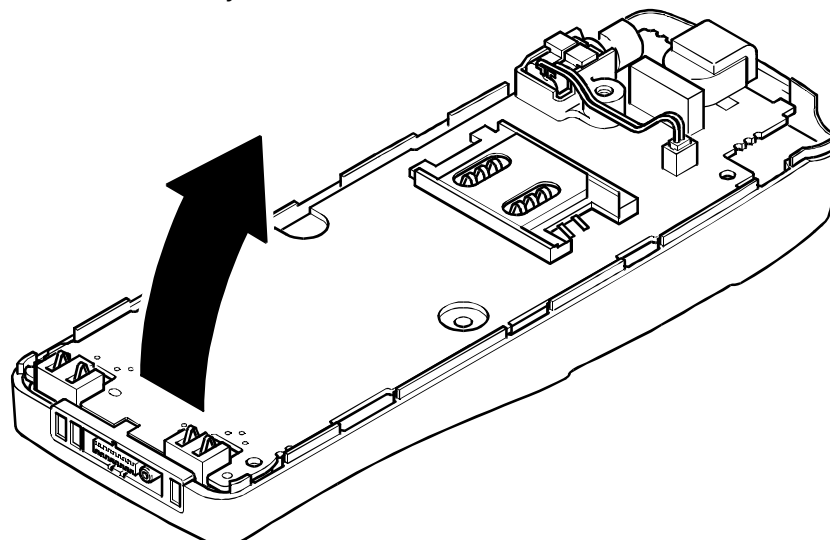

Figure 3: PCB assembly removal
3. (Figure 3) Remove the PCB assembly.